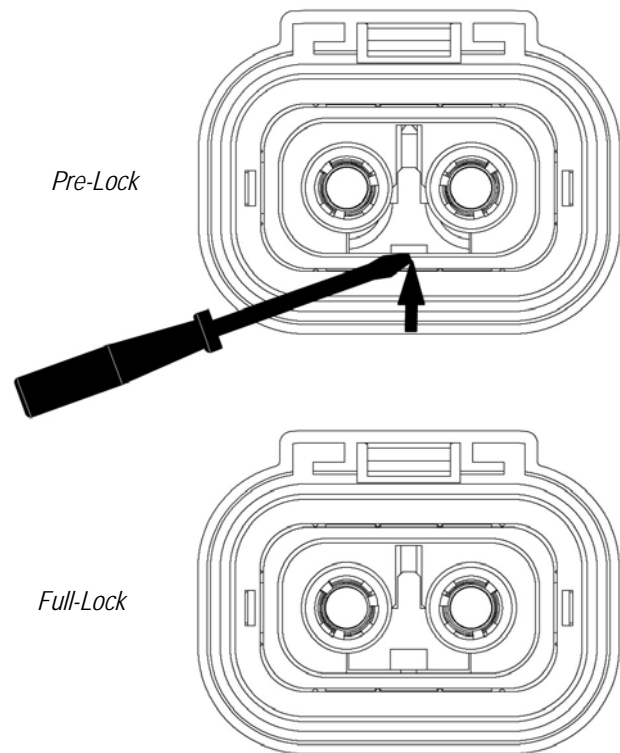

Figure 21
6. Move secondary lock from pre-lock to fully locked position using a small flat-bladed screwdriver. See Figure 21. If the secondary lock does not change positions easily, check to make sure that both terminals are fully installed.